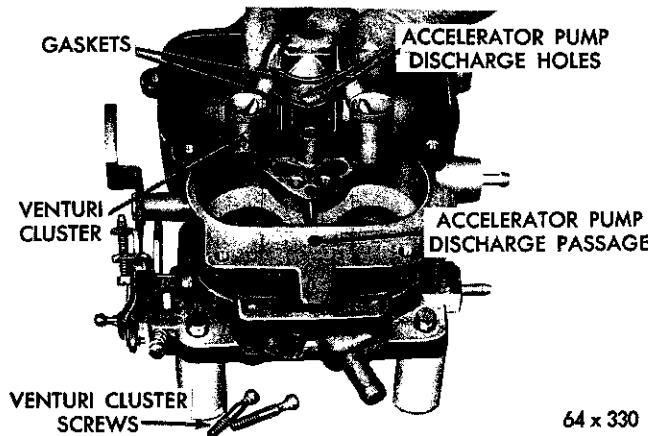

Fig. 4—Removing the Venturi Cluster
(13) Remove the venturi cluster screws, then lift the venturi cluster and gaskets up and away from the main body, as shown in Figure 4. Discard the gaskets. **Do not remove the idle orifice tubes or the main vent tubes from the cluster.** They can be cleaned in a solvent and dried with compressed air.
(14) Invert the carburetor and drop out the accelerator pump discharge check ball.
(15) Remove the idle mixture adjusting screws and springs from the throttle body.
(16) Remove the screws that attach the throttle body to the main body. Separate the bodies and discard the gasket.
(5) Install new gaskets on the venturi cluster, and install in position in the main body (Fig. 4). Install the idle bleed screws and tighten securely. Test pump discharge by pressing pump plunger down. Two fine streams of fuel should be forced from the cluster. If either stream is restricted or diverted, remove cluster and reclean. After test, pour the fuel from the bowl and remove pump plunger.